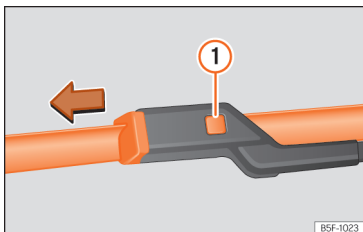

Fig. 151 Changing the windscreen wiper blades
- Press and hold release button >>> Fig. 151 ① and pull gently on the wiper blade in the direction of the arrow.